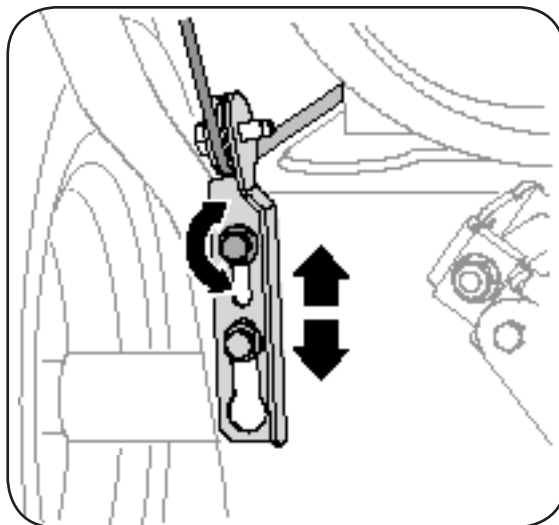

Figure 13
4. Allow the auger to remain engaged for approximately ten (10) seconds before releasing the auger control. Repeat this several times.
8. Position the bracket upward to provide more slack (or downward to increase cable tension). See Figure 13.